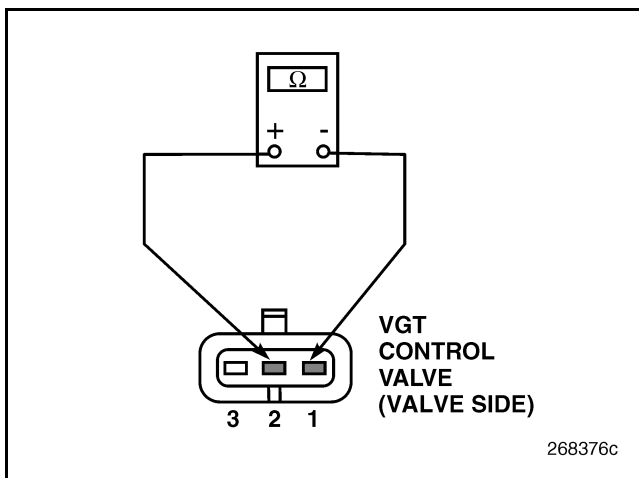
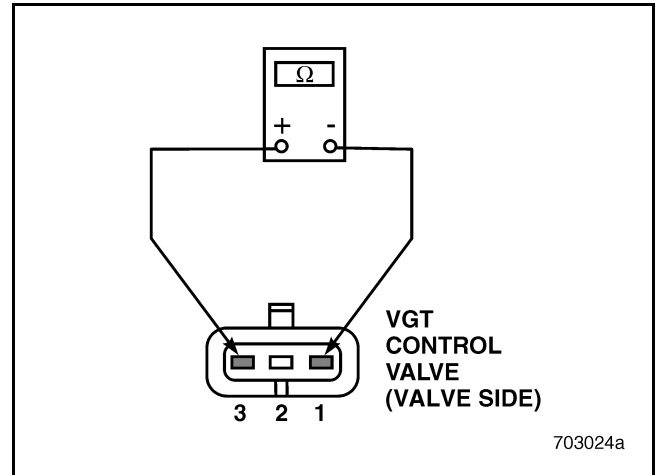
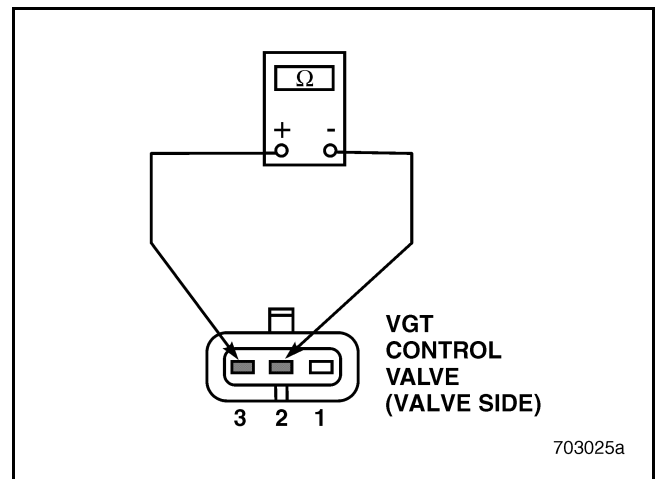

Figure 738
Figure 739
Figure 740
3. Measure the resistance between terminals 1 and 2 (see Figure 738), 1 and 3 (see Figure 739), and 2 and 3 (see Figure 740) of the VTG Control valve.